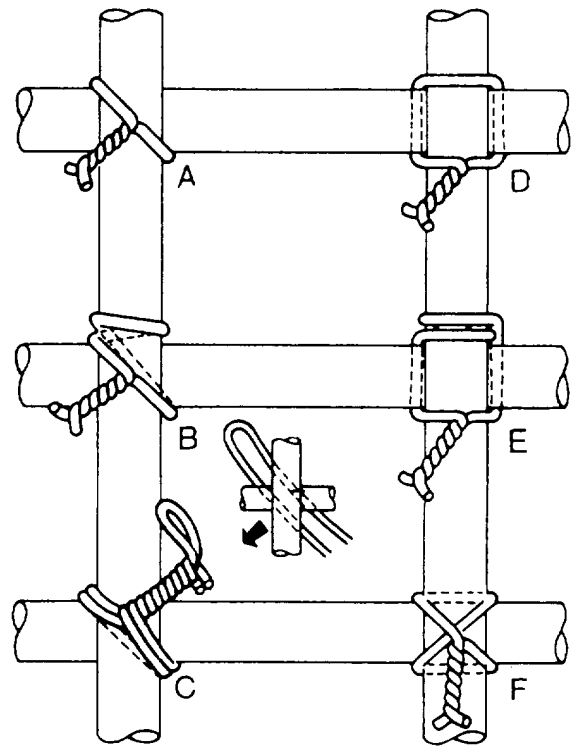

Figure 7-20.-Types of ties.
Several types of ties can be used with rebar. Some are more effective than others. The views in figure 7-20 illustrate the six types used by the Seabees: (A) snap, or simple, tie, (B) wall tie, (C) double-strand tie, (D) saddle tie, (E) saddle tie with twist, and (F) cross, or figure-eight, tie. As a Builder, you will probably be concerned only with the snap
**SNAP, OR SIMPLE, TIE.**— The snap, or simple, tie (view A of figure 7-20) is simply wrapped once around the two crossing bars in a diagonal manner with the two ends on top. The ends are then twisted together with a pair of side cutters until they are very tight against the bars. Finally, the loose ends are cut off. This tie is used mostly on floor slabs.
**WALL TIE.**— The wall tie (view B of figure 7-20) is made by taking one and one-half turns around the vertical bar, then one turn diagonally around the intersection. The two ends are twisted together until the connection is tight, then the excess is cut off. The wall tie is used on light vertical mats of steel.